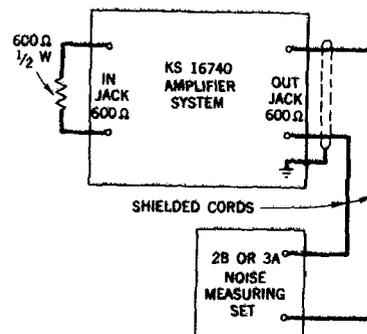

Fig. 2 – Test Setup for Measuring Noise
5.01 The noise test should be made in accordance with the test setup shown in Fig. 2. A 2B or 3A Noise Measuring Set should be used with 15 KC flat weighting. Chart II outlines the step procedure for making the test. The procedure will vary slightly depending on which noise set is used.
2	Connect circuit as shown in Fig. 2.